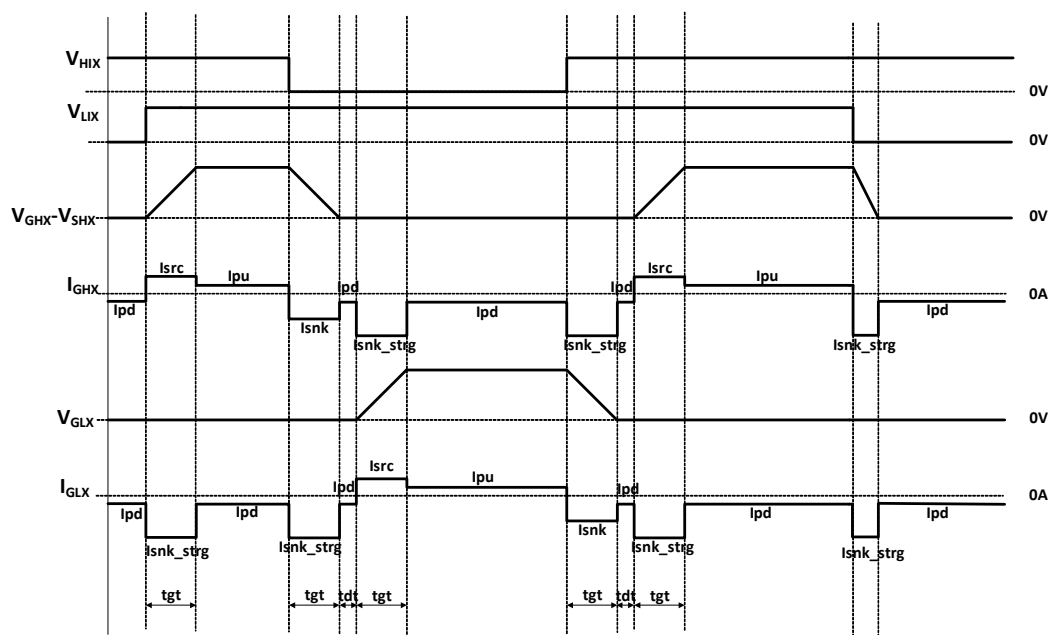

Figure 21. Gate Drive Timing in 3-phase PWM Mode
**Gate drive scheme in 3-phase PWM mode (Figure 21):** The MODE/SDO pins need to be tied to logic high to enable this mode. The MODE/SDO state is latched during the internal logic initialization after VCC POR. LIX serves as enable/disable of the driver output of each phase.